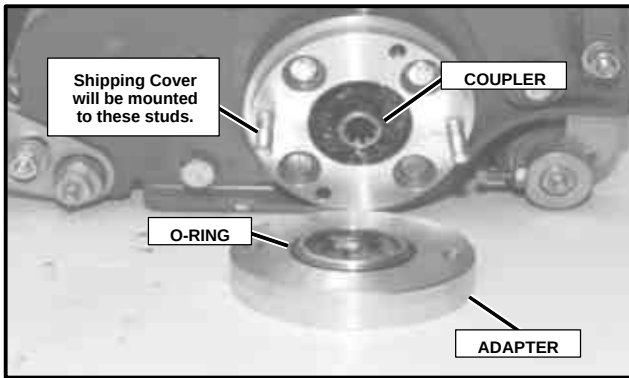
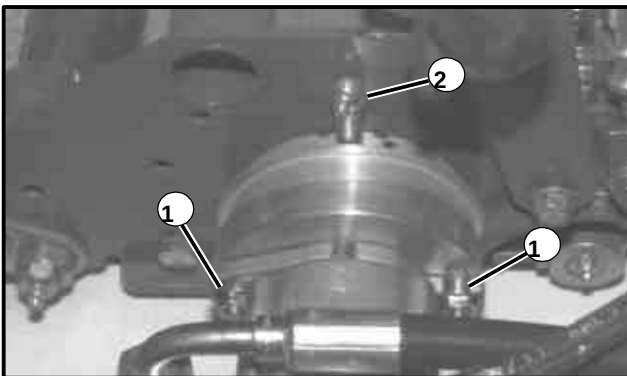

Figure 8
Figure 9
8. Install coupler on cutting head shaft (See Fig. 8).
9. Apply a small amount of Loctite™ 242 threadlocker (or equivalent) to the short thread end of two (2) 5/16-18 x 2" studs and install the studs in the two tapped holes on the right hand end of the cutting head.
11. Install two (2) 5/16-18 smooth flange face nuts loosely onto the studs (See Fig. 9).
13. Add lithium based lubricant to the bearing housings at **BOTH** ends of the reels (refer to the lubrication fitting in Figure 9). Bearings at both ends are partially packed with lubricant at the factory, but additional lubricant is required once assembled. Use a pressure gun to add lubricant until it starts to escape from the fittings. Wipe off any excess lubricant.